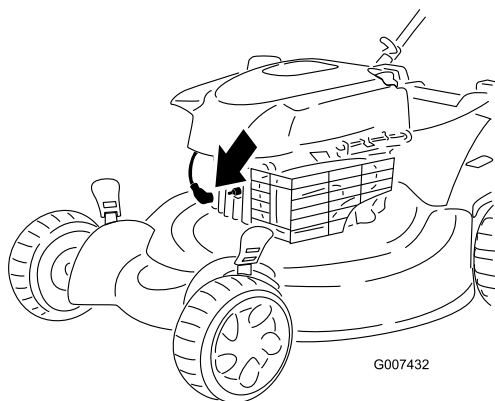

Figure 39
2. Disconnect the spark plug lead from the spark plug (Figure 39) before performing any maintenance procedure.